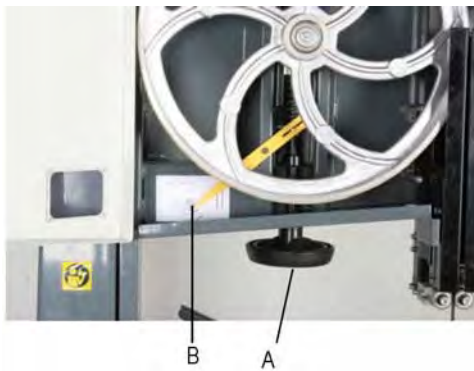

Fig. 12: Saw blade tension
Step 1: By turning the handwheel (Fig. 12, Pos. A) the saw blade tension is increased or decreased by means of a spring.
Step 2: The correct tension can be read off the scale (Fig. 12, Pos. B).